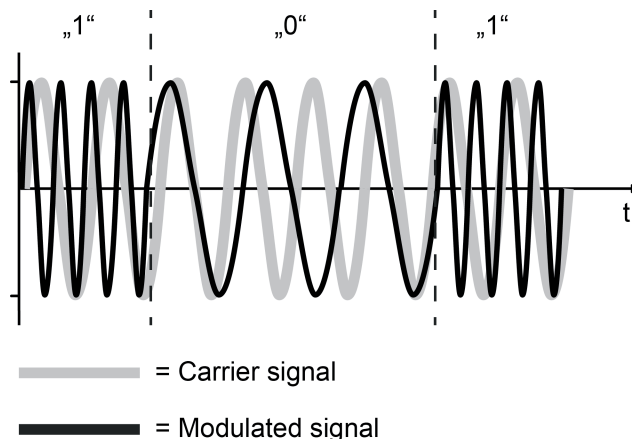

Figure 4: Frequency key shifting as a modulation method (FSK = Frequency Shift Keying)
An electromagnetic wave of a constant amplitude and frequency does not yet carry any information. To make this possible, the transmitter must change the amplitude or the frequency of the wave continuously according to an agreed method and the carrier signal must modulate the information in this manner. With KNX RF, the modulation type "Frequency key shifting" (FSK = Frequency Shift Keying) is used (figure 4). Frequency key shifting is a variant of frequency modulation (FM) and suitable for the transmission of digital information. Two time-coded signals of a different frequency are transmitted, in order to inform the receiver of the logical states "0" and "1". Frequency key shifting is impervious to interference. Even major transmission losses in signal amplitude do not have a negative effect on the demodulation of the transmitted information.